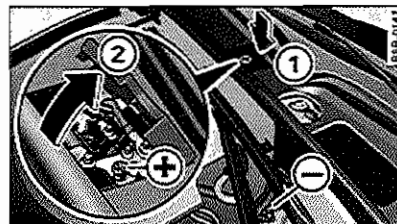

Fig. 239 Engine compartment: Connectors for jumper cables and charger
⇒ fig. 239.
- Close the cover ② on the positive terminal and re-install the cover ① ⇒ page 316, fig. 239.